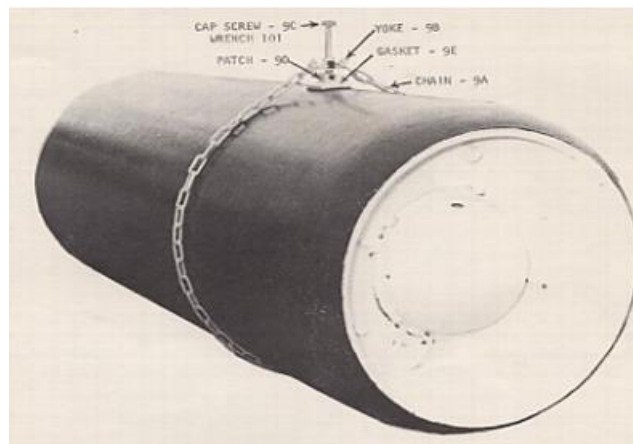

Figure 26: Using Method for Kit No. (8)
Kit No. (8) A patch kit which is designed to patch leakage from the side walls of the ton container, as shown in Figure 26.